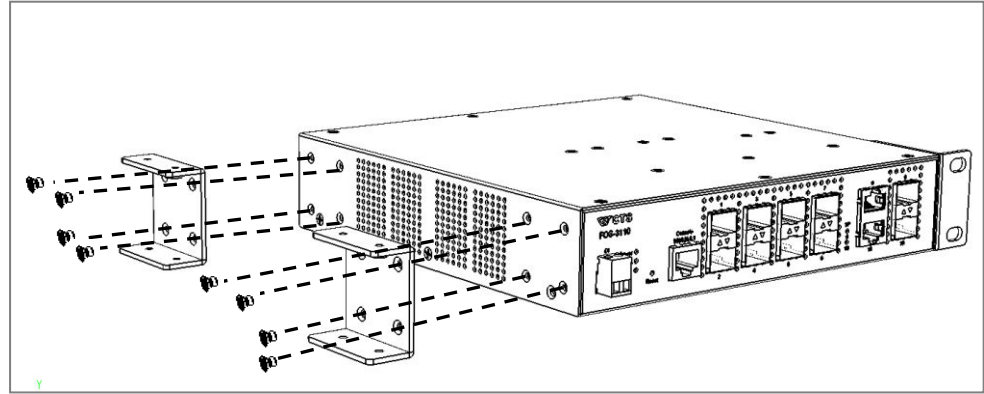

Figure 2-3. Install the L-shaped fixed pieces in the reverse direction for two-switch mounting
- 2.4. On the left side of the switch, attach one L-shaped fixed piece in the reverse direction by inserting the screws provided in the FOS combine kit through this fixed piece and into the mounting holes in the switch. (See Figure 2-3)
- 2.5. Repeat the same manners as we had mentioned in Step 2.4 to install another L-shaped fixed piece on the same side of the switch. (See Figure 2-3)